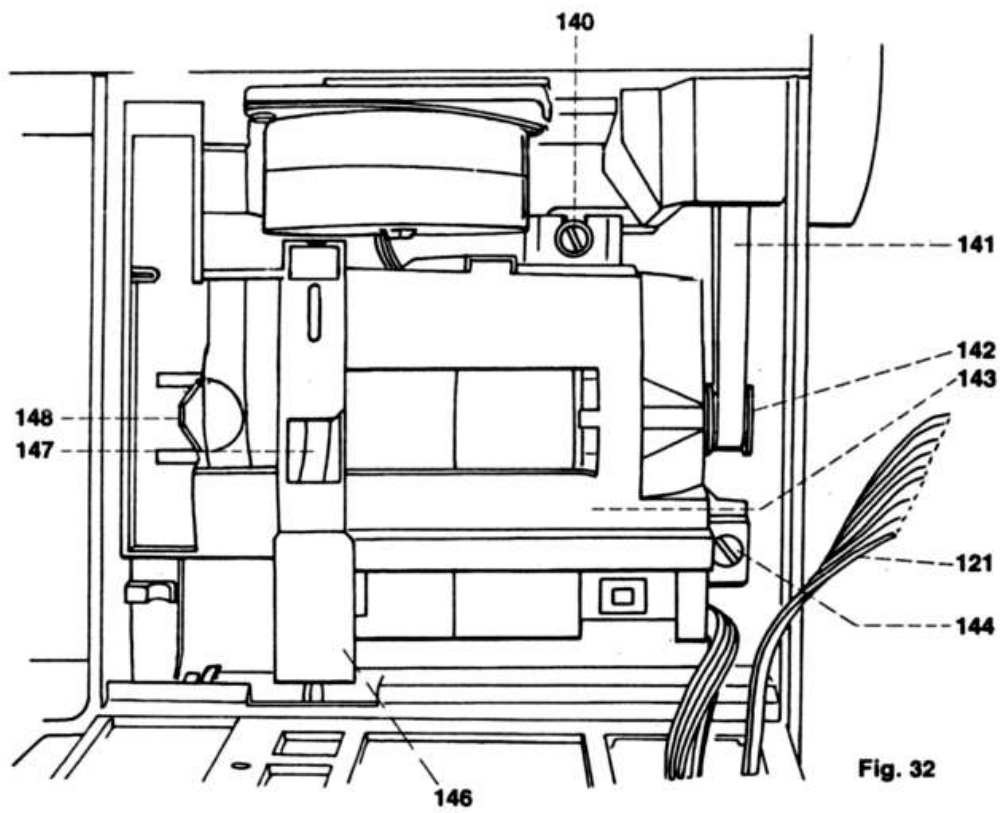

Fig. 32
- Unscrew the right-hand motor retaining screw 144 (fig. 32).
- Insert the motor and place motor sprocket in toothed belt 141 (fig. 32).